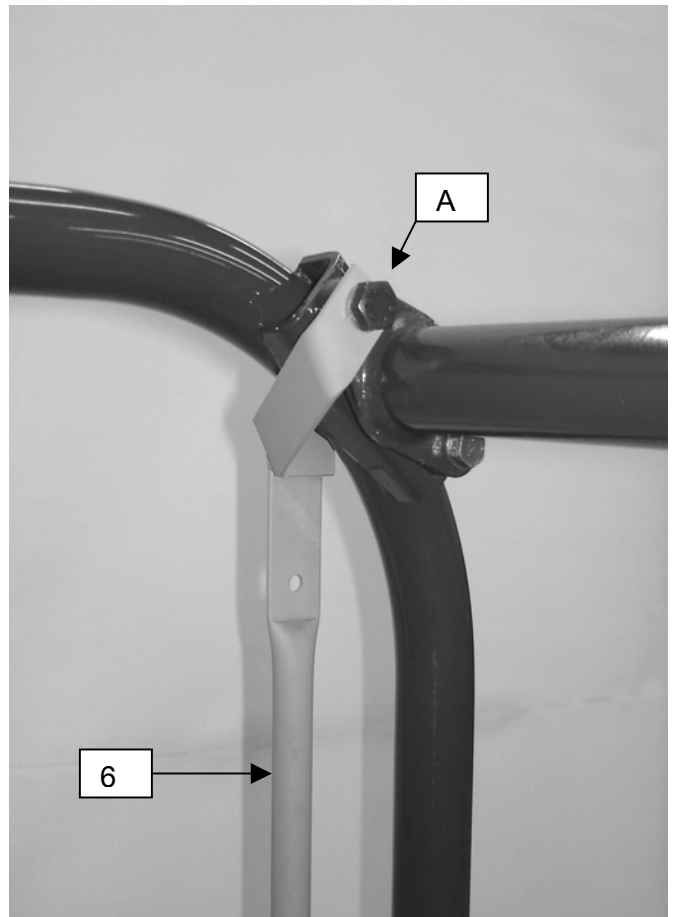

Figure 1A
Step 1; See Figure 1A & 1B:
A. Remove the bolt at Reference A. Place the right Post in position as shown in Figure 1A and replace the bolt with an M10 x 35mm and M10 lock washer. Do not tighten at this time.